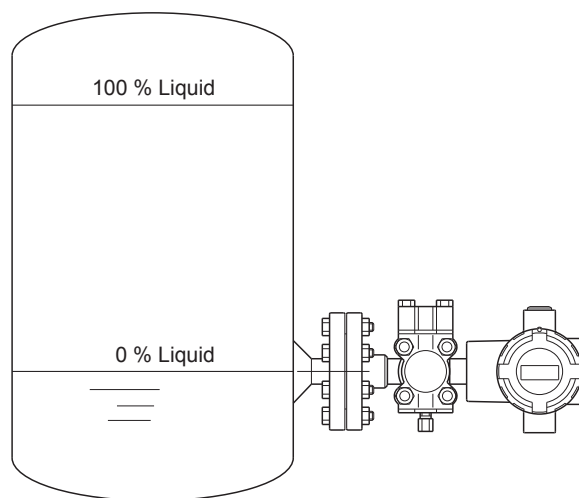

Fig. 2-6. Typical Flange Mounted Transmitter Installation.
Fig. 2-6 shows a typical installation for a transmitter with the flange on the high pressure (HP) side so the HP diaphragm is in direct contact with the process fluid. The low pressure (LP) side of the transmitter is vented to atmosphere (no connection).